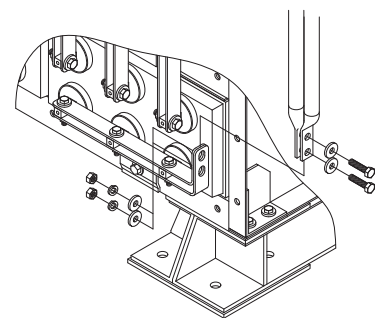

FIGURE 18d
7. Bolt lower terminal bars to the cell terminals before attaching cable(s) to the terminal bars as shown in Figure 18d.